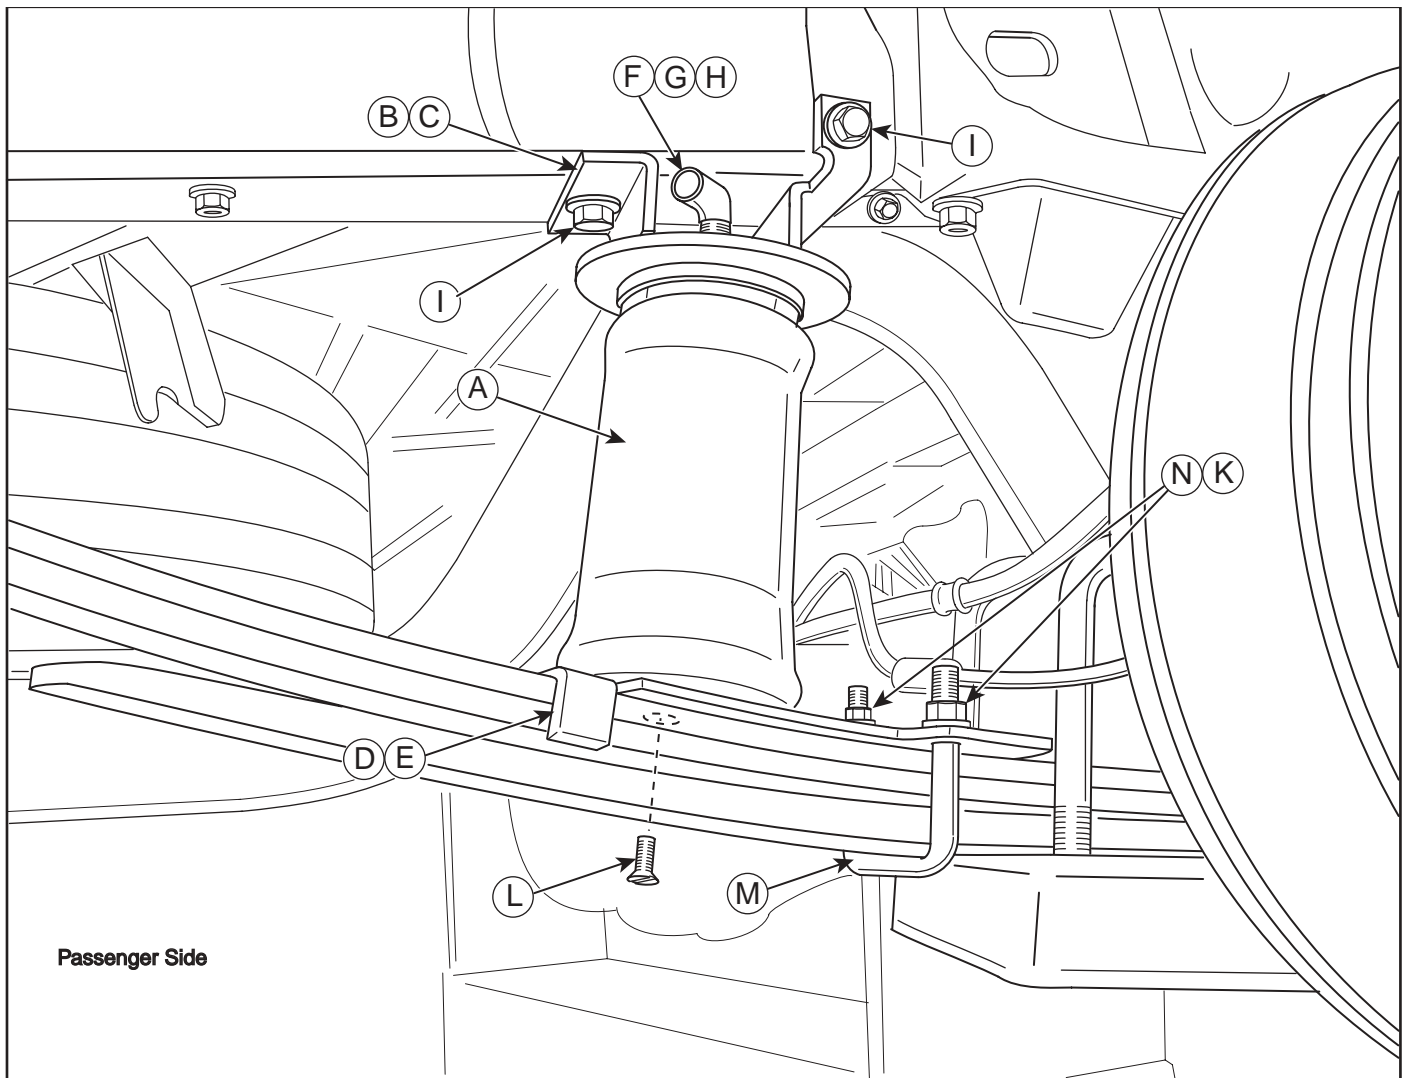

Figure 1
3. Set the brackets on the frame behind the axle as shown (Figure 1 & 2). Clamp the brackets to the frame with vise grips or welding clamps.
5. Attach both brackets to the frame with the supplied (4) four $\frac{3}{8}$ "-16 x 1-1/2" bolts (I), large flat washers (J) and nyloc nuts (K) (Figure 1).
3. Attach the lower brackets to the leaf spring with supplied U-bolts (M), flat washers (N) and nyloc nuts (K) (Figure 1).
4. Feed the top fitting (F) and thread post of the top air spring through the slot on the upper bracket. Attach the large serrated washer (G), then the large nyloc nut (H) over the fitting and thread post. Tighten the nut finger tight only at this time (Figure1).
If the vehicle's headlights are shining into the trees or the vehicle is leaning to one side, then it is not level (fig. 1). Raise the air pressure to correct either of these problems and level the vehicle.